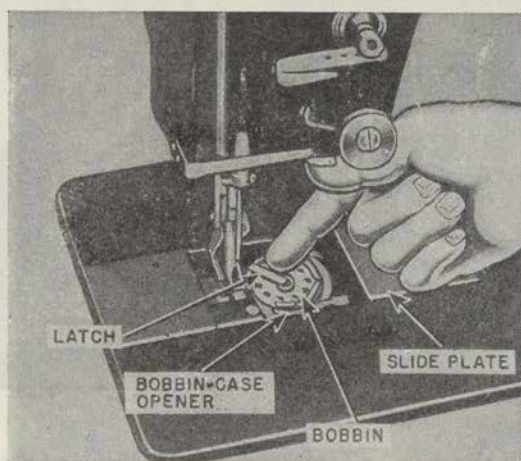

FIGURE 92.—Removing bobbin.
f. To remove bobbin (fig. 92).—To remove the bobbin, draw back the slide plate in the bed of the machine and turn the balance wheel until the bobbin case opener moves clear of the bobbin. With the forefinger or a screw driver, raise the latch to a vertical position and lift out the bobbin.